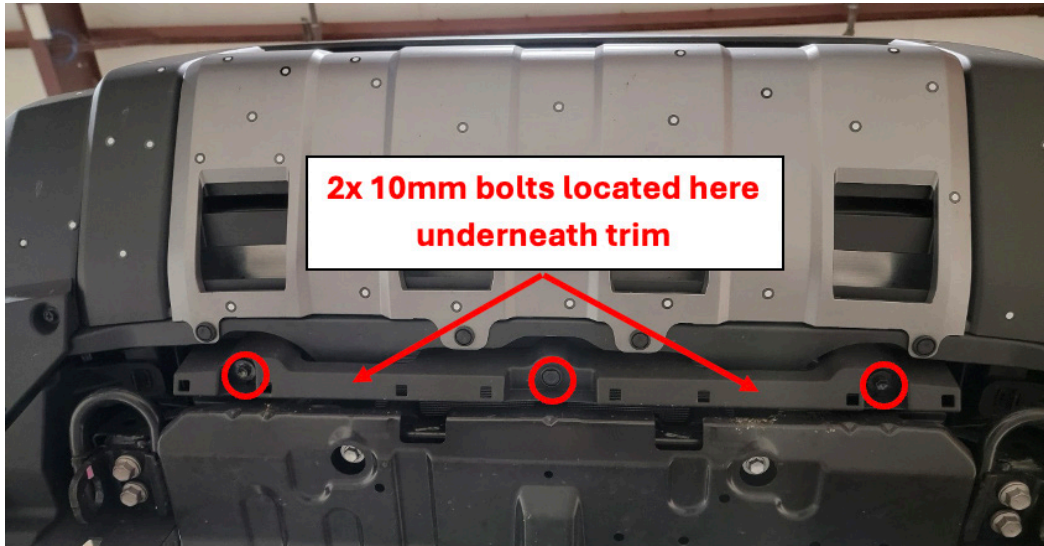

Figure 3.
3. Remove the skid plate trim piece. Use a 10mm socket to remove the 2x bolts on the sides and a pry tool to remove the 1x push pin in the center. Once the trim is removed, you will have access to remove 2x 10mm holding the bumper on to the lower supports. Remove the 2x bolts using a 10mm socket. Figure 3.